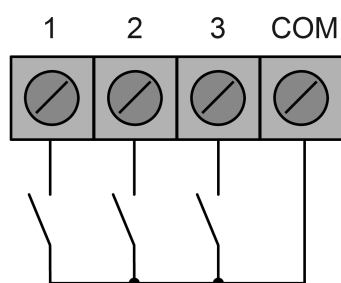

Figure 3: Connection of potential-free contacts to the extension inputs
- (3) Slide-in shaft for rotary knob with push-button (incremental encoder)
- (4) Terminals for extension inputs
- (5) KNX bus connection
- (6) Device with supporting plate
- (7) Design frame
- (8) Central plate
- (9) Control button
- Connect KNX bus line with terminal to bus connection (5).
- Optionally, connect potential-free contacts to the extension inputs (4) (figure 3).